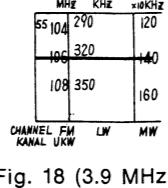

Fig. 18 (3.9 MHz)
| (6) | Connect to test point TP₁ through 10 PF capacitor. Common to earth. | 3.9 MHz | 3.9 MHz [Fig. 18] | " | L ₁₅ (OSC Coil) L ₄ (ANT Coil) |